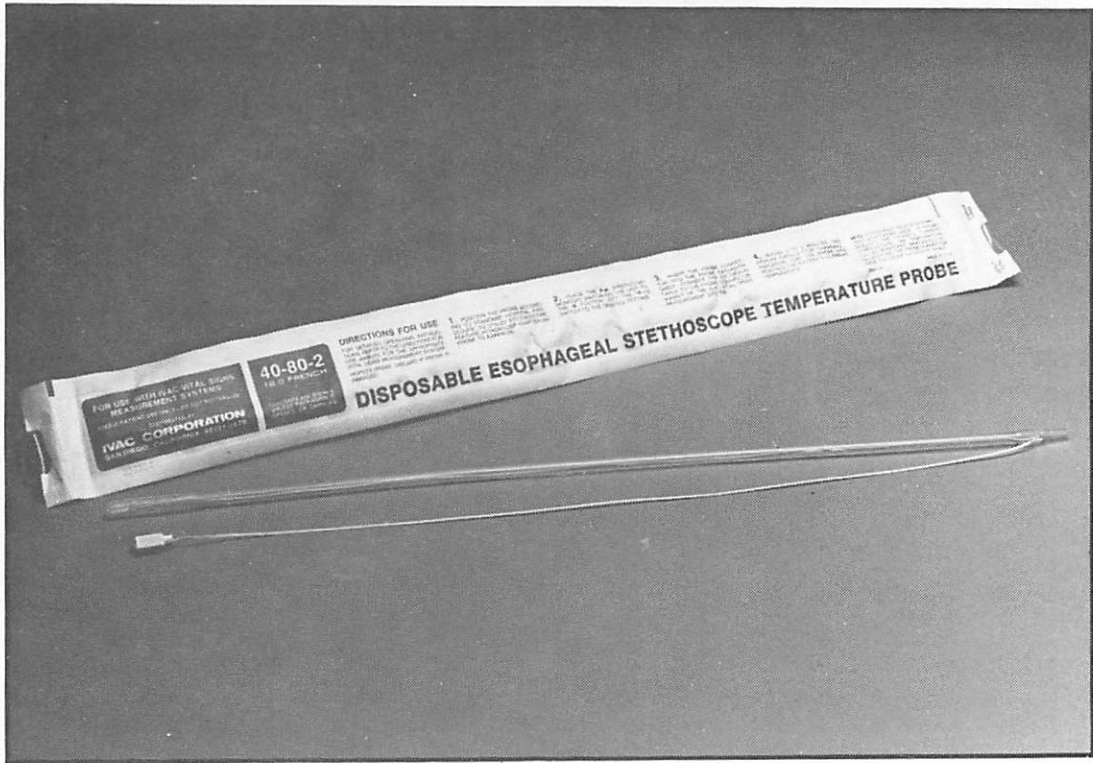

Figure 1-6. IVAC Temperature Probe Esophageal Stethoscope -- Model 4082
- h. IVAC Temperature Probe Esophageal Stethoscope - Model 4082, 18 French (figure 1-6). This device is used with the VITAL●CHECK monitor in the monitor mode. A patient's temperature may be determined in three to five minutes. If disconnected for intermittent monitoring (once the probe reaches the patient's stable temperature), temperature can be immediately monitored, by reinserting the probe extension connector into the probe extension cable.